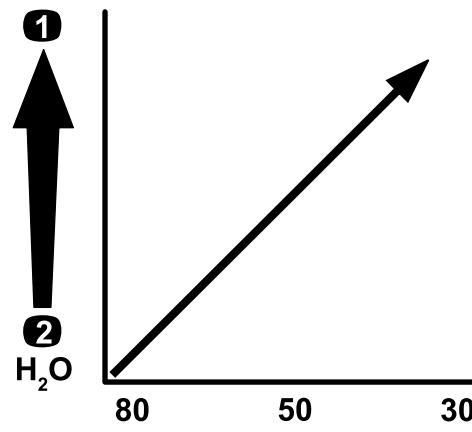

Figure 64
**Important:** When you spray with higher viscosity (thicker) chemical products or solutions with wettable powders, you may need to use a coarser screen mesh for the optional suction filter; refer to Figure 64.